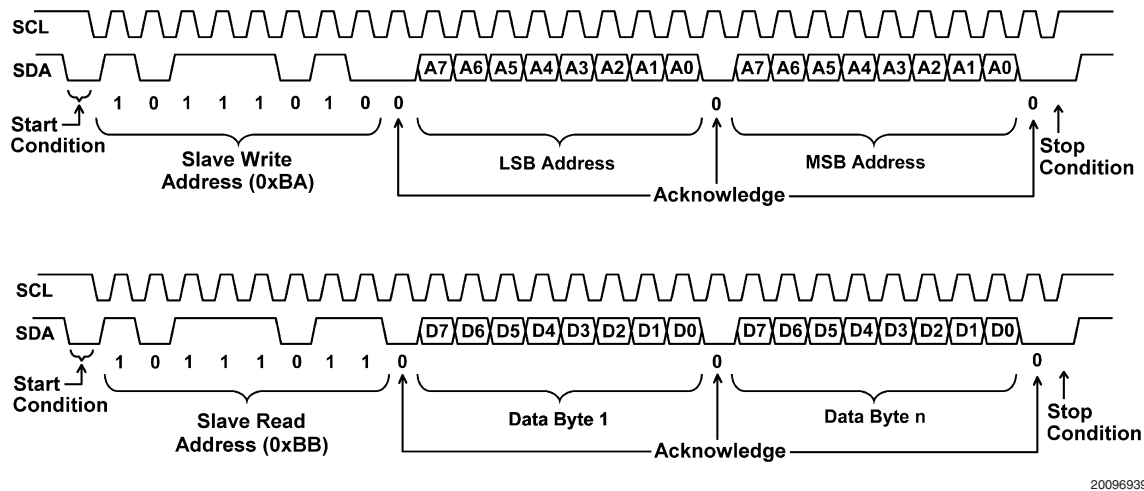

FIGURE 18. I2C Compatible Read Sequence
*Figure 18*. The write sequence consists of the Start Pulse, the Slave Device Write Address (0xBA), and the Acknowledge bit; the next byte is the least significant byte of the address to be accessed, followed by its Acknowledge bit. This is then followed by a byte containing the most significant address byte, followed by its Acknowledge bit. Then a Stop bit indicates the end of the address only write access. Next the read data access will be performed beginning with the Start Pulse, the Slave Device Read Address (0xBB), and the Acknowledge bit. The next 8 bits will be the read data driven out by the LM1276 preamp associated with the address indicated by the two address bytes. Subsequent read data bytes will correspond to the next increment address locations. Data should only be read from the LM1276 when both OSD windows and the Fade In/ Fade Out are disabled.